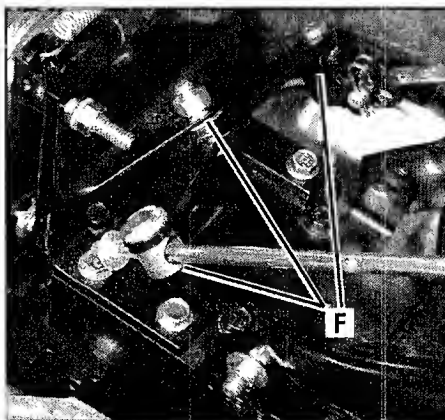

Figure 5-2
- Oil the various pivot points (F, Fig. 5-2) on the shifting mechanism, the handlebar, and the idler arms (do not allow oil on the belts or pulleys).